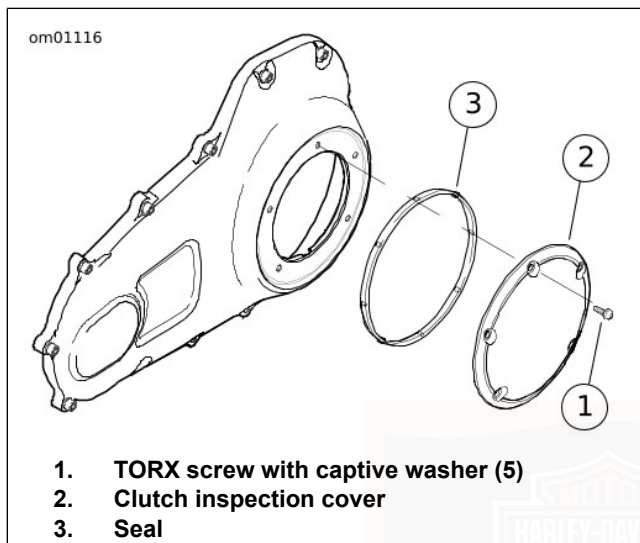

Figure 54. Clutch Cover
3. See Figure 54. Remove five screws (with captive washers) to free clutch inspection cover from primary chaincase cover.